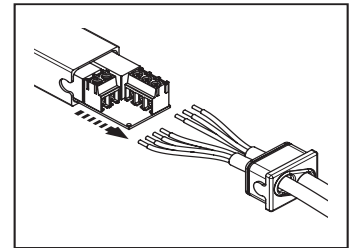

Figure 5: Board pulled out of the container
5. Pull the board a few centimetres out of the container (Figure 5).